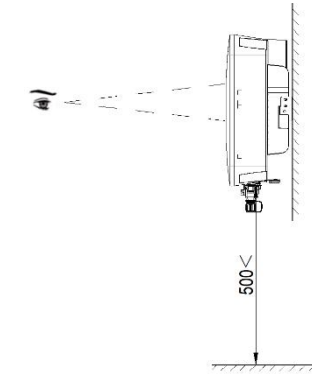

Fig4.3 Optimum installation height area
- (2) There is enough reserved space around the installation site to facilitate the disassembly and assembly of inverter and air convection. As shown in Fig 4.3.